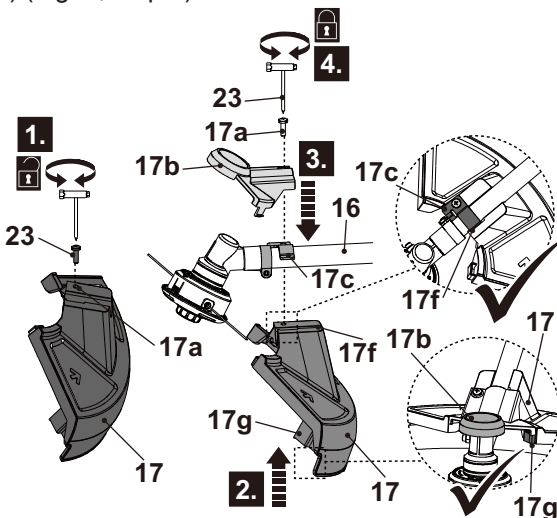

Fig. 3
1. Remove the bolt (17a) from the guard (17) by using the supplied multi tool (23) and keep it handy (Fig. 3, step 1).
2. Align the guard (17) with the guard support (17c) on the lower pole (16) and keep it in place (Fig. 3, step 2).
3. Align the guard cover (17b) with the guard support (17c) on the lower pole (16). Ensure that the sheet metal of the guard support (17c) is fully inserted the slot (17f). Ensure the clip of the guard cover (17b) is pressed through the buckle (17g) of the guard (17) with an audible click sound (Fig. 3, step 3).
4. Make sure that the screw holes on guard (17), guard support (17c) and guard cover (17b) are well aligned.
5. Secure the connections with the bolt (17a) clockwise by using the supplied multi tool (23) (Fig. 3, step 4).